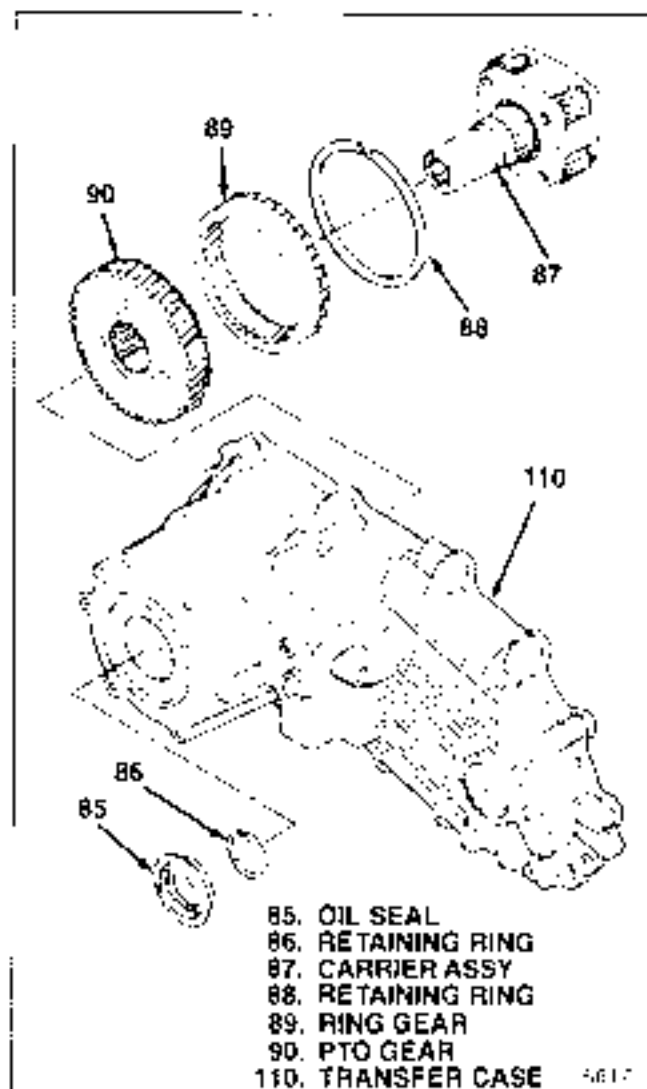

Figure 5-4. Carrier Assembly and Ring Gear
**5-7. INSTALLATION OF RING GEAR AND CARRIER ASSEMBLY.** To assembly as completed thus far (91 through 110), assembly parts as follows (see figure 5-4):
a. Install ring gear (89) in transfer case (110), lug end of gear last. Engage gear lugs with case notches and install retaining ring (88).
b. For units with PTO, align splines and install PTO gear (90) on input shaft of carrier assembly (87). Position gear with respect to carrier assembly as shown in figure 5-4.
c. Position carrier assembly (87), with installed PTO gear (90) if used, in transfer case (110) and install retaining ring (86) in groove in input shaft of carrier assembly.
d. Position oil seal (85) as shown in figure 5-4 and press into transfer case (110) until seal flange seats on case.